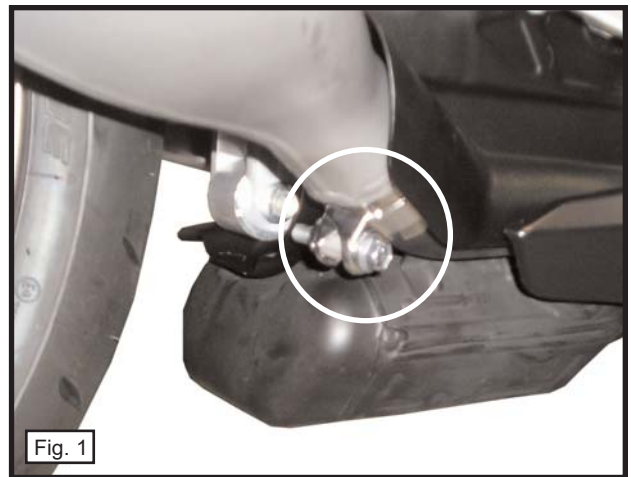

Fig. 1
- 2) Loosen the clamp bolt securing the stock right side midpipe to the catalytic box under the motor. (Fig. 1)